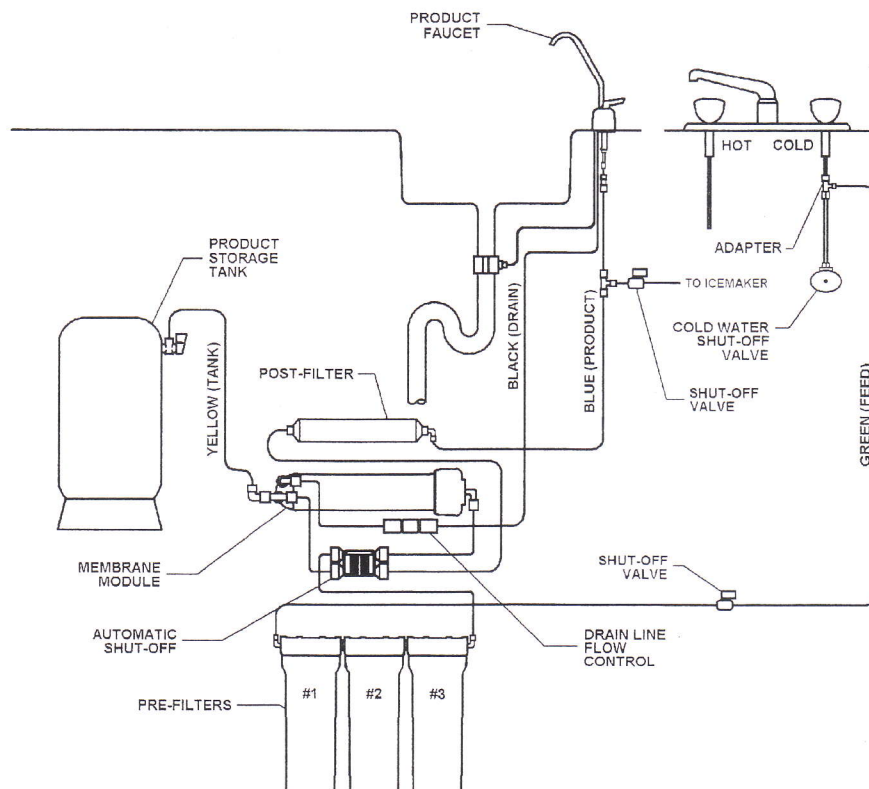

Figure 1. TUBING CONNECTIONS
- (1) Figure 1 shows the tubing connections necessary.
- (2) The system housing can be mounted on wall or side of cabinet using appropriate fasteners.
- (3) Faucet Mounting Instructions: